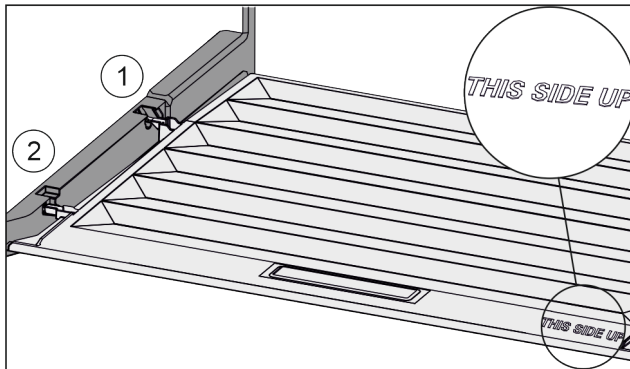

Fig. 125
- ▶ Insert the lip of the cover over the opening of the rear bracket Fig. 125 (1) and click into place Fig. 125 (2).